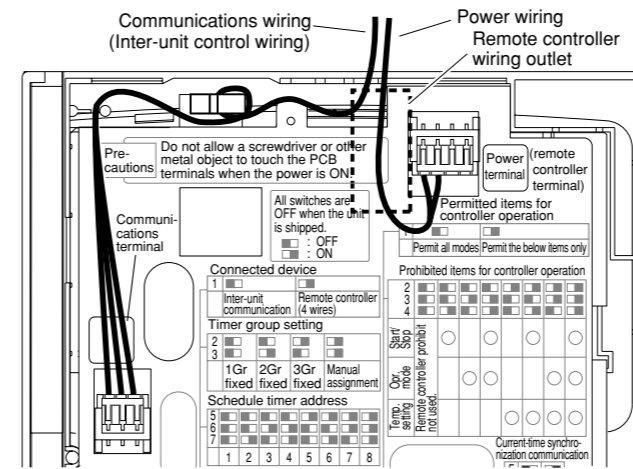

Fig. 5
- Check that the schedule timer communications wiring and power wiring are connected correctly. (Fig. 5)